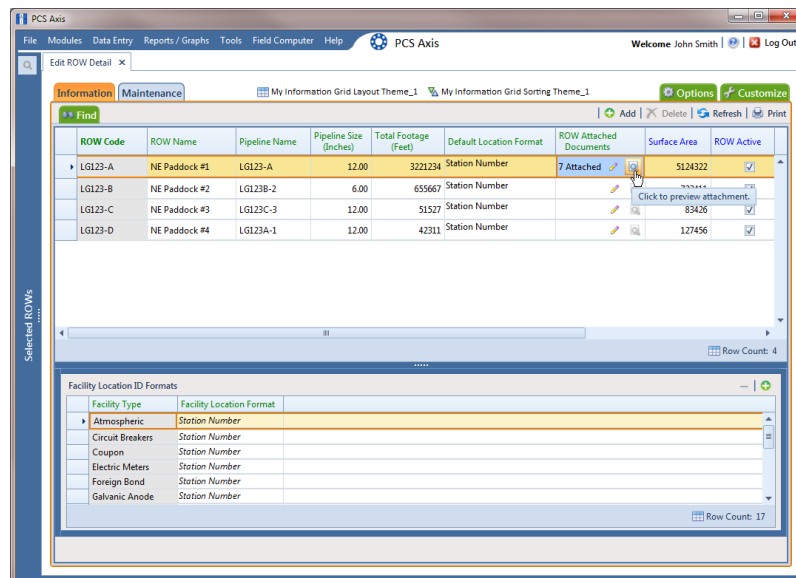

Figure 4-29. Edit ROW Detail
- 2 Click **Data Entry > Edit ROW Detail** to open the *Edit ROW Detail* window (Figure 4-29).